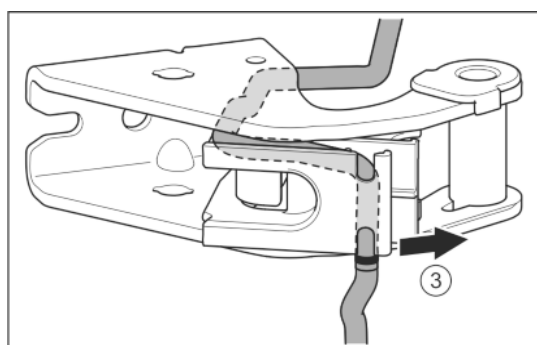

Fig. 24
- Remove the cable from the guide. *Fig. 24 (3)*